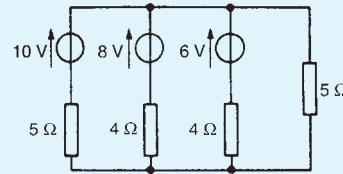

Figure 13.80
5. For the network shown in Fig. 13.80, convert each branch containing a voltage source to its